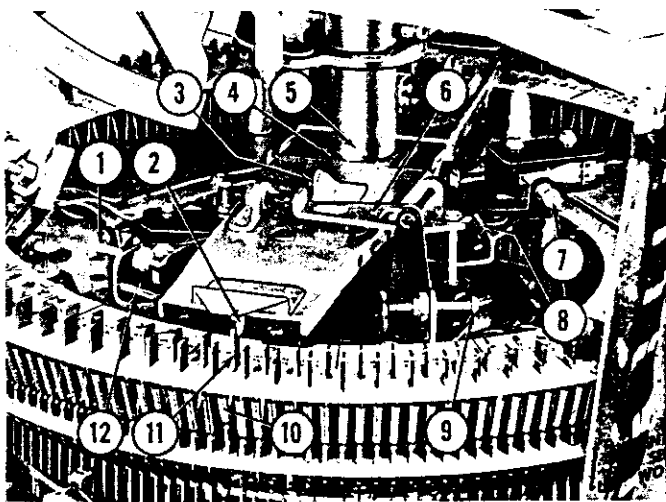

Fig. 21. SELECTOR CRANK AND CARRIAGE SWITCH SETTINGS
(2) To index the selector cranks with record carrier, release one of the inner latch pins (Item 11, Fig. 21) and note the number of the pin as marked on the upper plate of the selector drum.
(3) Manually rotate the record carrier until the inner (stationary) selector crank tip (Item 2, Fig. 21) engages the released latch pin. At the point where the corresponding back-stop pawl drops into the tooth of the record carrier casting which indexes the record holder as noted at the released latch pin, the carriage switch should be adjusted at its adjusting screw (Item 7) to just actuate. The rotation of the record carrier should be repeated and the screw re-adjusted if necessary to provide switch actuation exactly as the back-stop pawl engages.
(5) The selector crank stop screw (Item 9, Fig. 21) will be set to stop rotation of the record carrier immediately following actuation of the carriage switch. Over-travel of the back-stop pawl should not exceed 1/16" to 3/32".
(6) Cancel the selected latch pin and set the kick-off adjusting screw (Item 1, Fig. 21) to stop the kick-off action (advance) of the selector crank at a point just enough beyond the cancelled pin to permit its release but not enough to allow the tip of the opposite selector crank to interfere with its next succeeding latch pin.
(7) The settings described in (3), (4), (5), and (6) above should be checked and justified at twelve positions around the selector drum, six positions with the inner tip and six positions with the outer tip. Tolerance for carriage switch setting must not exceed 3/6". Tolerance for selector crank stop setting must not exceed 1/16" to 3/32".